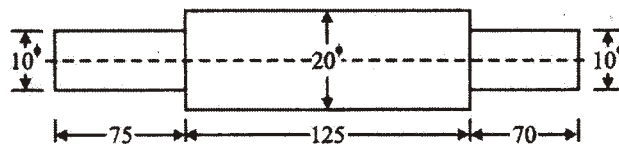

Fig. 3 (All dimensions are in mm)
17. 150 pieces of shafts as shown in Fig. 3 are to be drop forged from the raw stock of 20 mm diameter :